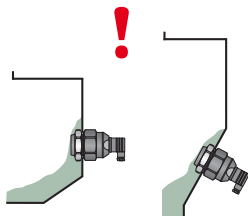

Fig. 2: Sticking of material when installed with a fastening nut
- When mounting the sensor onto a slant wall or on a bin sidewall using a fixing nut, some sticking materials can get stuck above the fixing nut. As a result, might cause false activation (locking) of the sensor. (see Fig. 2).